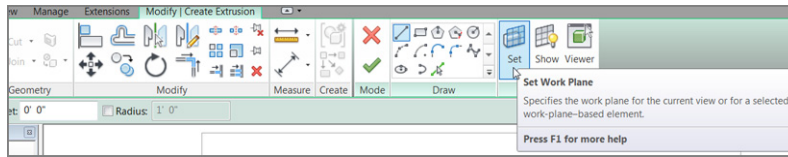

FIGURE 17.16: The Set button in the Work Plane panel
3. In the Work Plane panel, click the Set button, as shown in Figure 17.16.